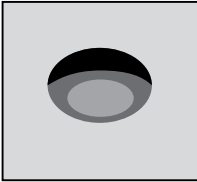

Figure 14.2
4. Make a mark through the hole onto the floor surface creating a drilling guide (Figure 14.2).